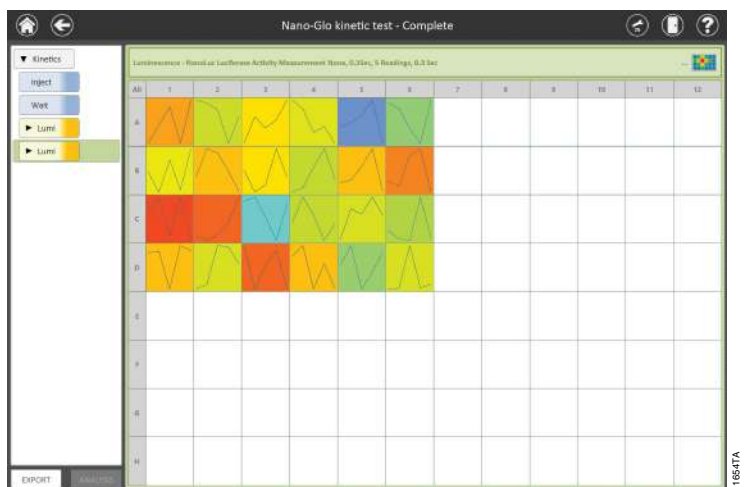

Figure 57. Results plate map for kinetic data.
Kinetic results display a graphical representation of the data during the course of the kinetics read (Figure 57). Data are automatically scaled based on the results within each well. Zoom in to view the axis for each well as desired. Users can use touch-screen gestures to zoom in or out, or to pan the well map.
- a. To analyze data, tap the **Analysis** button (bottom left corner of screen in Figure 57). Analysis functionality is described in Section 3.F, Analysis of Results. For certain result types (e.g., Basic protocols containing kinetic reads as well as Time Course protocols), the **Analysis** button will be inactive because analysis is not supported for these protocol types.
- b. To export data, tap the **Export** button (bottom left corner of screen in Figure 57). The software will export the data to the manual export folder specified by the Administrator settings (see Section 3.H, Administrator Settings). Results generated from Time Course Protocols are automatically exported to the PC in .csv format, not within the GloMax[®] Software. The Results screen provides a link to the file pathway where the results are stored. When interfacing with a laboratory information management system (LIMS), we recommend using the .csv file and importing according to your LIMS software guidelines.